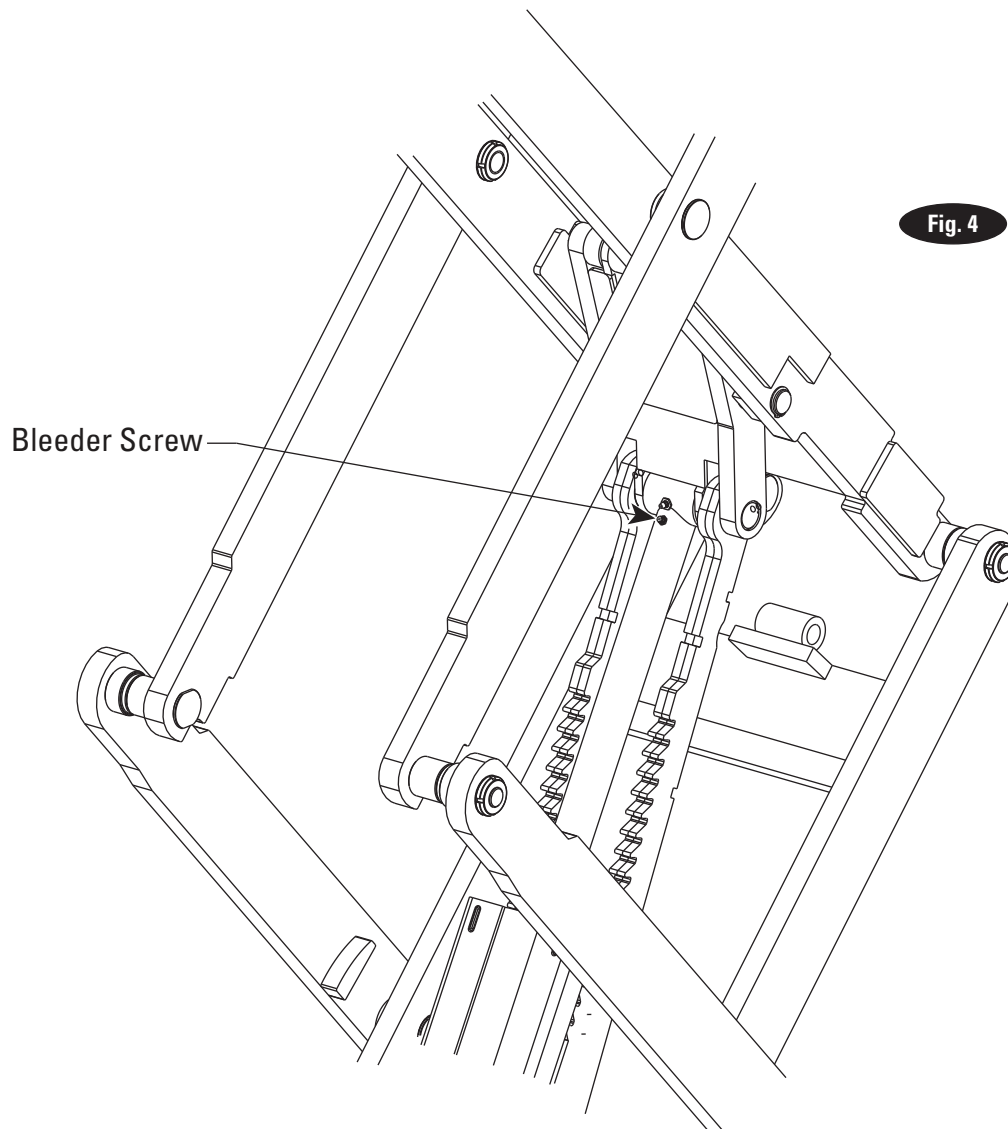

Fig. 4
2. Bleed air from cylinder located underneath the platform using bleed screw, Fig. 4.